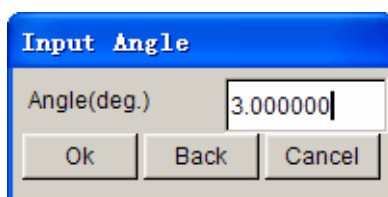

Figure 4.17: Input Angle dialog box
2. In the WARPAGE CHECK dialogue window, change the check standard from 5.0 degree (default) into 3.0 degree. See figure 4.17.